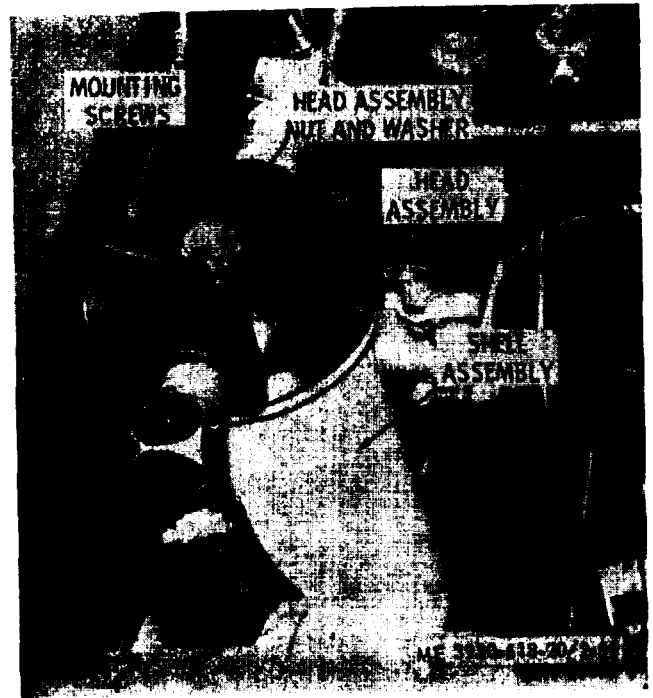

Figure 2.50. Micrin-type hydraulic fluid filter. installed view.
*a. Removal.* Refer to figure 2-50 and proceed as follows :
- (1) Remove the seat and seat support.
- (2) Separate the shell assembly from the head assembly.
- (3) Remove the element, from the shell assembly.